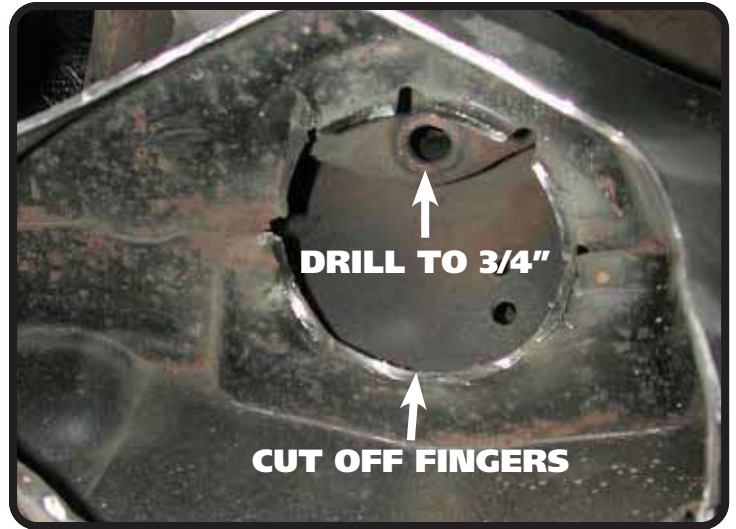

Figure 1
2. Drill the OEM shock hole out to 3/4". This can be done with a Unibit. To prevent contact with the top of the Shockwave, the coil spring retaining fingers must be cut off (Figure 1). A die grinder works well here.